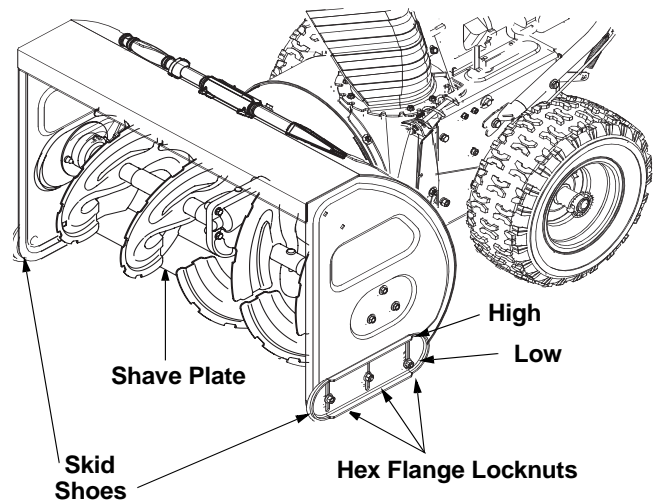

Figure 15
For close snow removal, as when using on a smooth concrete or asphalt driveway, place the skid shoes in the low position. Use the middle or high position when the area to be cleared is uneven. When operating on gravel, always put skid shoes in the high position. See Figure 15.
- Remove the six carriage bolts and hex flange locknuts which attach two skid shoes to the snow thrower on two sides. See Figure 15.